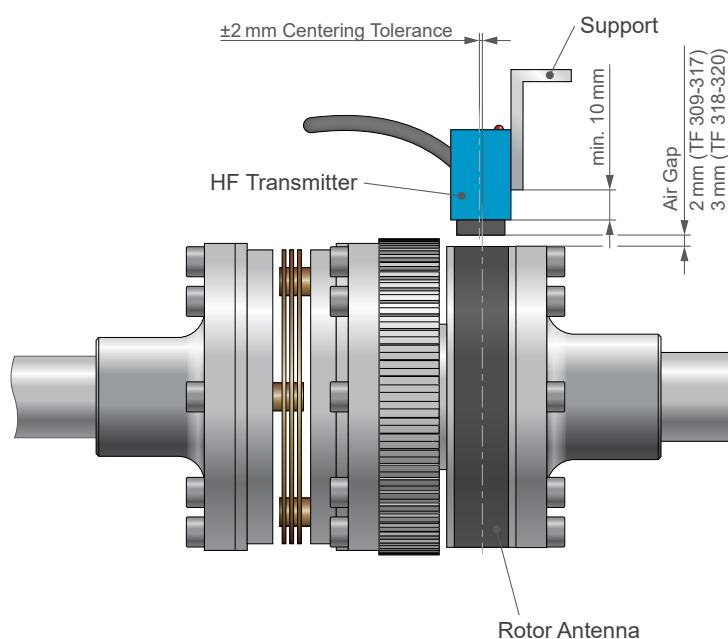

Fig.2-15 HF Transmitter Installation
- The HF transmitter must be mounted onto a support which can be easily adjusted both horizontally and vertically. To prevent any disturbance of the transmitted signal, the support must be at least 10 mm away from the HF transmitter rim (see Fig.2-15). The support must also be stable in order to prevent excessive vibrating of the HF transmitter and, consequently, avoid electromagnetic coupling problems between the rotor antenna and the HF transmitter.